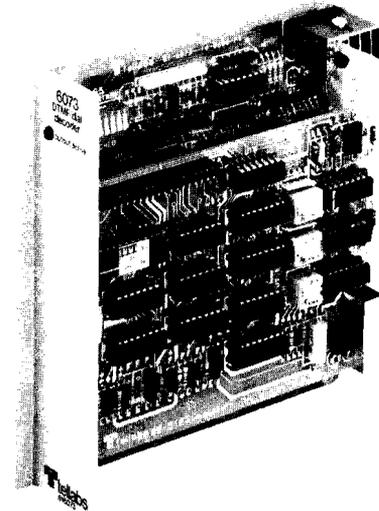

figure 1. 6073 DTMF/Dial Decoder module
1.01 The Tellabs 6073 DTMF/Dial Decoder module (figure 1) provides one, two, or three-digit selective signaling from either a dual-tone multi-frequency (DTMF) or rotary-dial source. Upon receipt of the correct DTMF or dial-pulse (DP) digits, the 6073 module activates one of 12 discrete signaling output leads which provides an active ground potential for external loads referenced to any negative voltage between -22 and -56 Vdc. The 6073 module is used in a variety of applications that require local or remote activation of external circuitry. Also, when used with the Tellabs 291 or 292 Conference/Alerting system, the 6073 module provides the means for any conference subscriber to activate a siren or other emergency device by simply dialing a single-digit code.